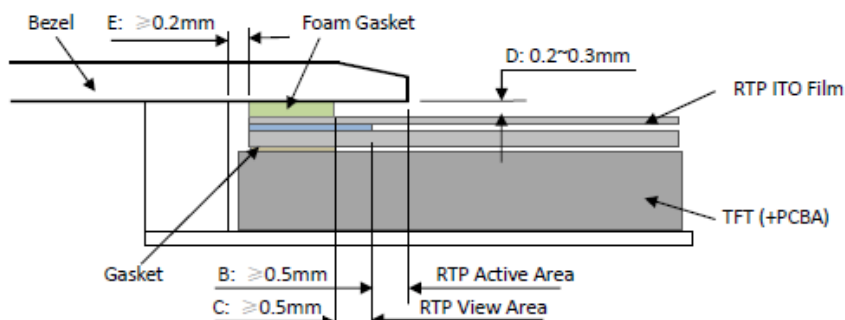

Figure 4
- It should bezel touching the RTP Active Area (A.A.) to prevent abnormal touch.It should left gab  $D=0.2\sim 0.3\text{mm}$  in between. (Figure 4)
- Outer bezel design should take care about the area outside the A.A. Those areas contain circuit wires which is having different thickness. Touching those areas could de-form the ITO film. As a result bezel the ITO film be damaged and shorten its lifetime. It is suggested to protect those areas with gasket (between the bezel and RTP).The suggested figures are  $B\geq 0.50\text{mm}$ ;  $C\geq 0.50\text{mm}$ . (Figure 4)
- The bezel side wall should keep space  $E= 0.2 \sim 0.3\text{mm}$  from the RTP. (Figure 4)
- 为避免面框直接压在动作区 (A. A.) 上造成误动作, 面框与电阻触摸屏 (RTP) 之间应留有一定的空隙  $D=0.2\sim 0.3\text{mm}$  之间. (附图4)
- 设计面框时, 要注意用面框保护触摸屏四周的非保证操作区域, 因为布线区域在此处形成一台阶, 在此区域附近操作时ITO Film变形较大, 容易导致ITO损坏而降低寿命. 为保护RTP和避免误操作, 在RTP与面框之间垫缓冲物 (Gasket), 我们建议设计面框应覆盖动作区的边缘, 面框边缘到V. A. 区的距离  $B\geq 0.50\text{mm}$ ; 垫圈内边缘到V. A. 区的距离  $C\geq 0.50\text{mm}$ . (附图4)
- 在设计面框与RTP组装时, 应考虑到面框内侧与RTP外侧的间距  $E\geq 0.2\text{mm}$ . (附图4)